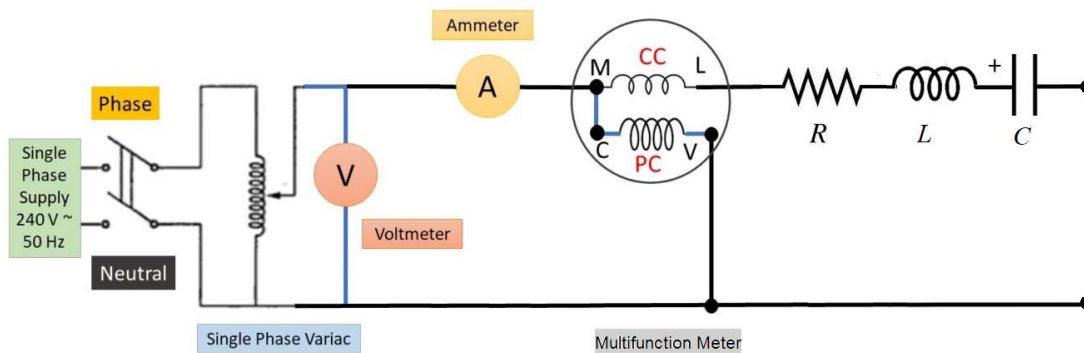

Fig.5: Circuit Diagram of Series RLC circuit.
1. Connect the resistor (R), inductor (L), and capacitor (C) in series with the single-phase AC supply as per the circuit diagram (ref fig.5).
4. Record the voltage (V), current (I), real power (P), and power factor ($\cos\phi$ from the meter) for each value of inductor (L) and adjust the capacitor (C) such that you have positive power factor nearest to 1. (Do not go for negative power factor)